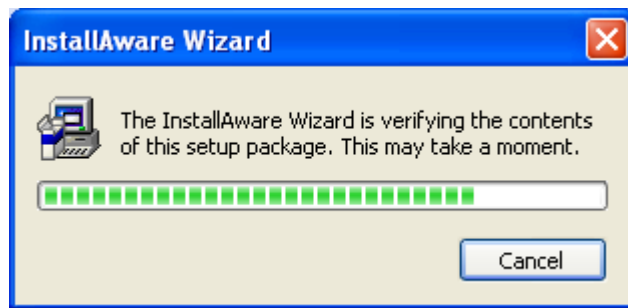
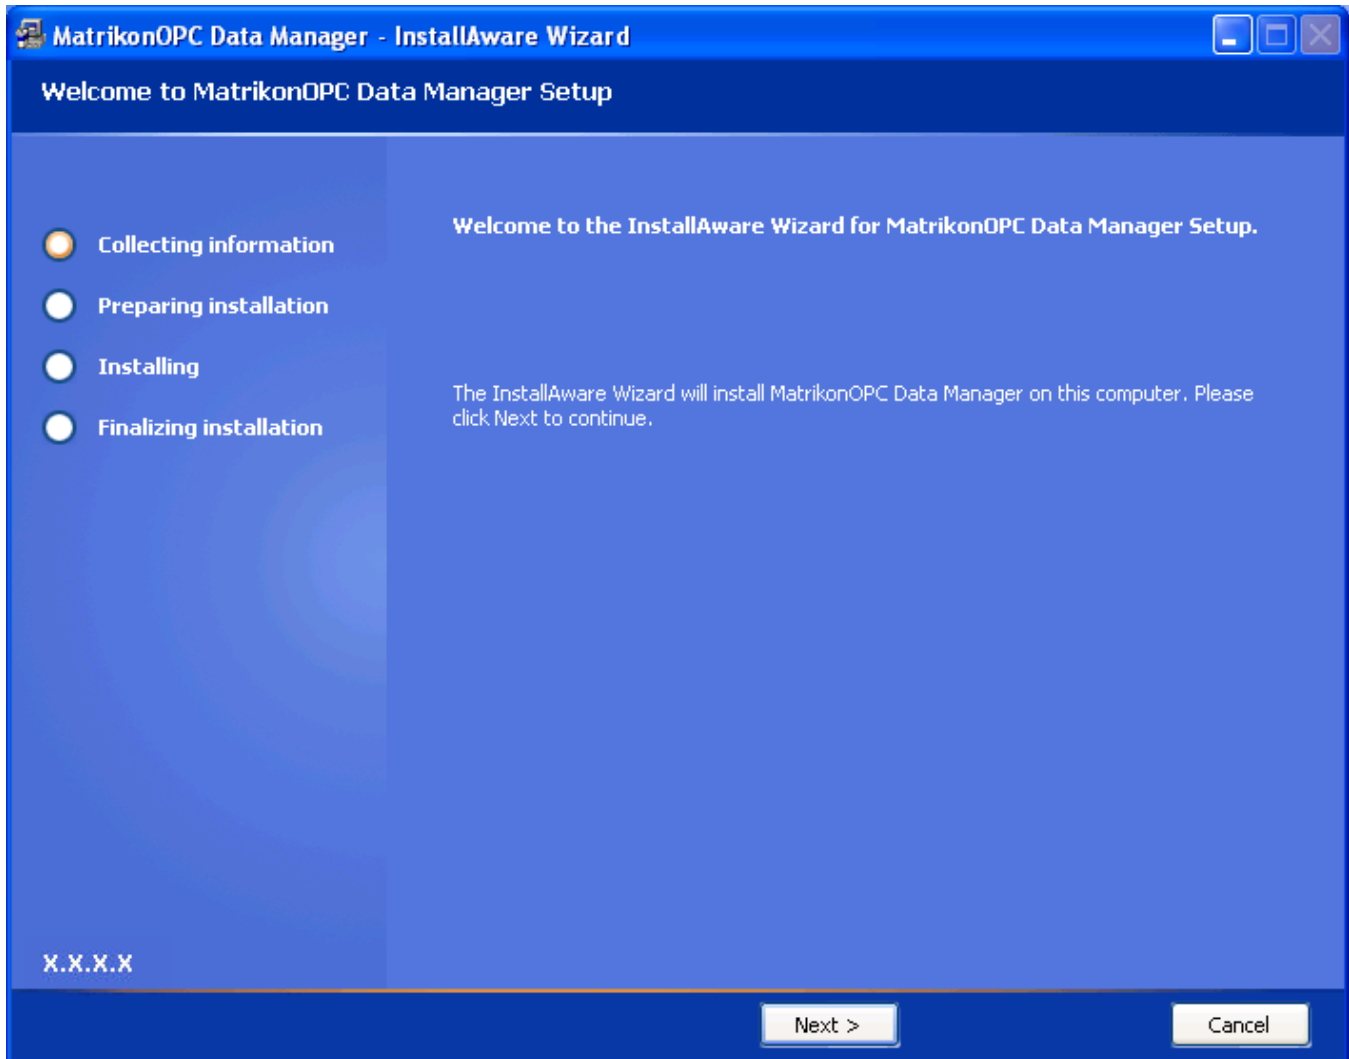

Figure 3 - InstallAware Wizard Verification Window
Figure 4 - Welcome to MatrikonOPC Data Manager Setup Screen
2. If the MatrikonOPC **Welcome** screen does not automatically appear, double-click the *MatrikonOPCDataManager.EXE* file. The **MatrikonOPC Data Manager – InstallAware Wizard** verifies its contents (Figure 3) and the **Welcome to MatrikonOPC Data Manager Setup** screen (Figure 4) appears.